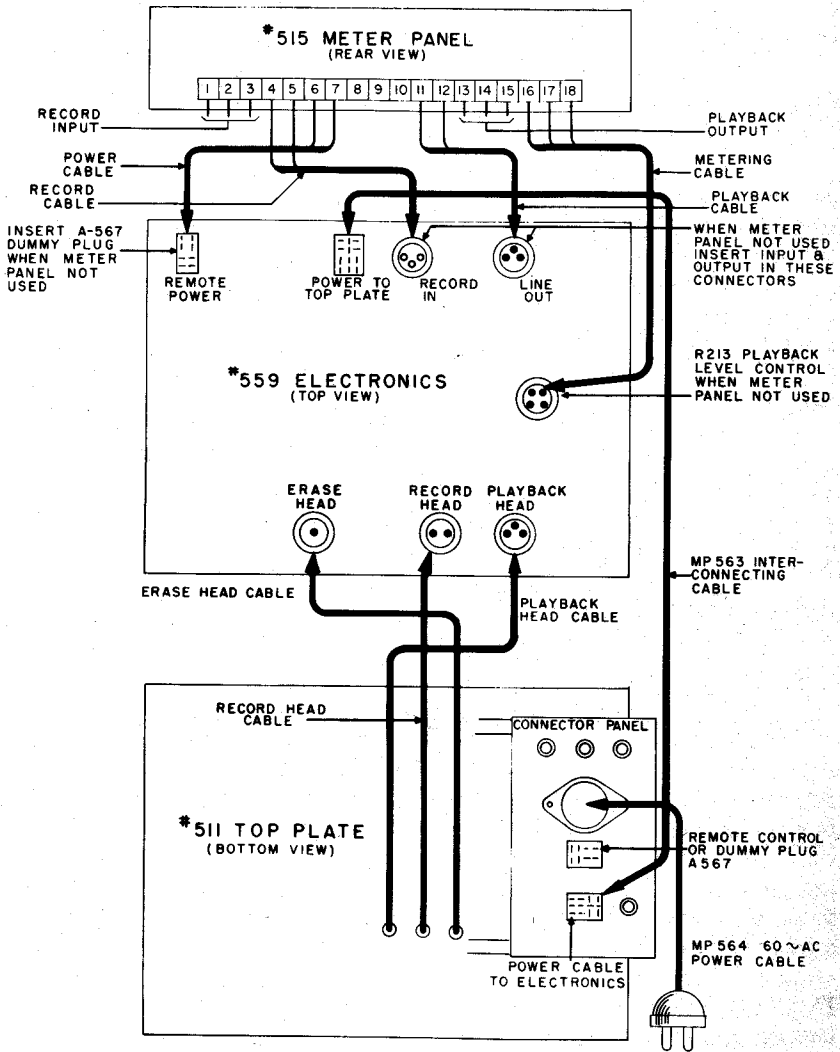

Fig. 1 Interunit Connection Diagram
4. Install all cables as shown in Fig. 1.
With reference to Figs. 1 and 3, connect input and output circuits to machine. Turn on POWER Switch. Mechanical operation is explained below.